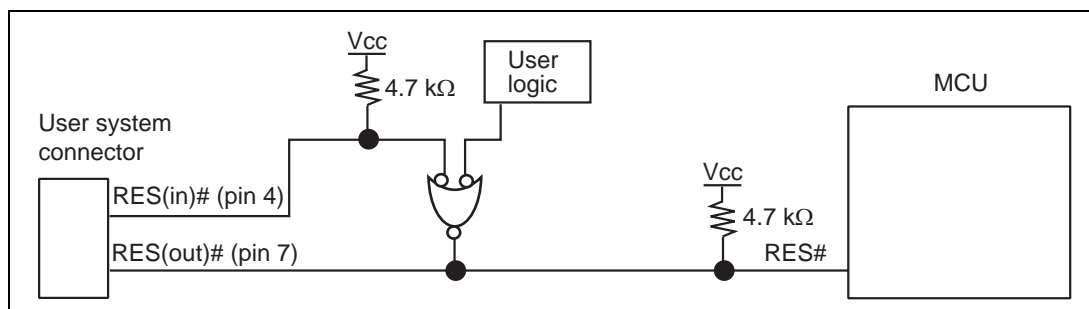

Figure 1.5 Example of Reset Circuits
2. RES(in)# of pin 4 of the user system connector is a signal line in which the emulator outputs signals to the MCU. RES(in)# of pin 4 and the user system reset circuit must be connected to the MCU, as shown in figure 1.5. RES(out)# of pin 7 of the user system connector is a signal line in which the emulator monitors the RES# signal of the MCU. The RES# must be pulled up before it is connected to pin 7 of the user system connector.